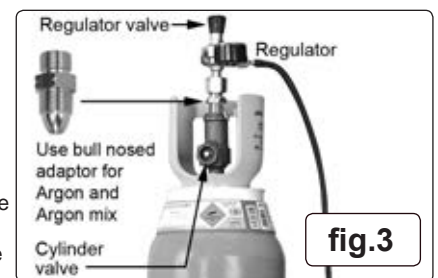

fig.3
4.1.1. **ATTACHING THE REGULATOR.** (fig.3) Whichever gas you are using it is advisable to 'crack' the cylinder valve before attaching the regulator. This means opening and closing the valve very quickly in order to blow away any dust and dirt that may have accumulated in the gas outlet. Stand to one side whilst doing this.
4.1.3. **ARGON GAS OR ARGON MIXTURES.** Cylinders containing argon gas and argon mixtures have a female thread and will require the use of a Bull Nose Adaptor to attach the regulator to the cylinder as indicated in fig.3. Ensure that the threads on the gas bottle are undamaged and free of oil and grease before attaching the regulator. (Oil or grease in the presence of high pressure gases can be explosive.) Fit the Bull Nose Adaptor to the cylinder first and tighten with a wrench.